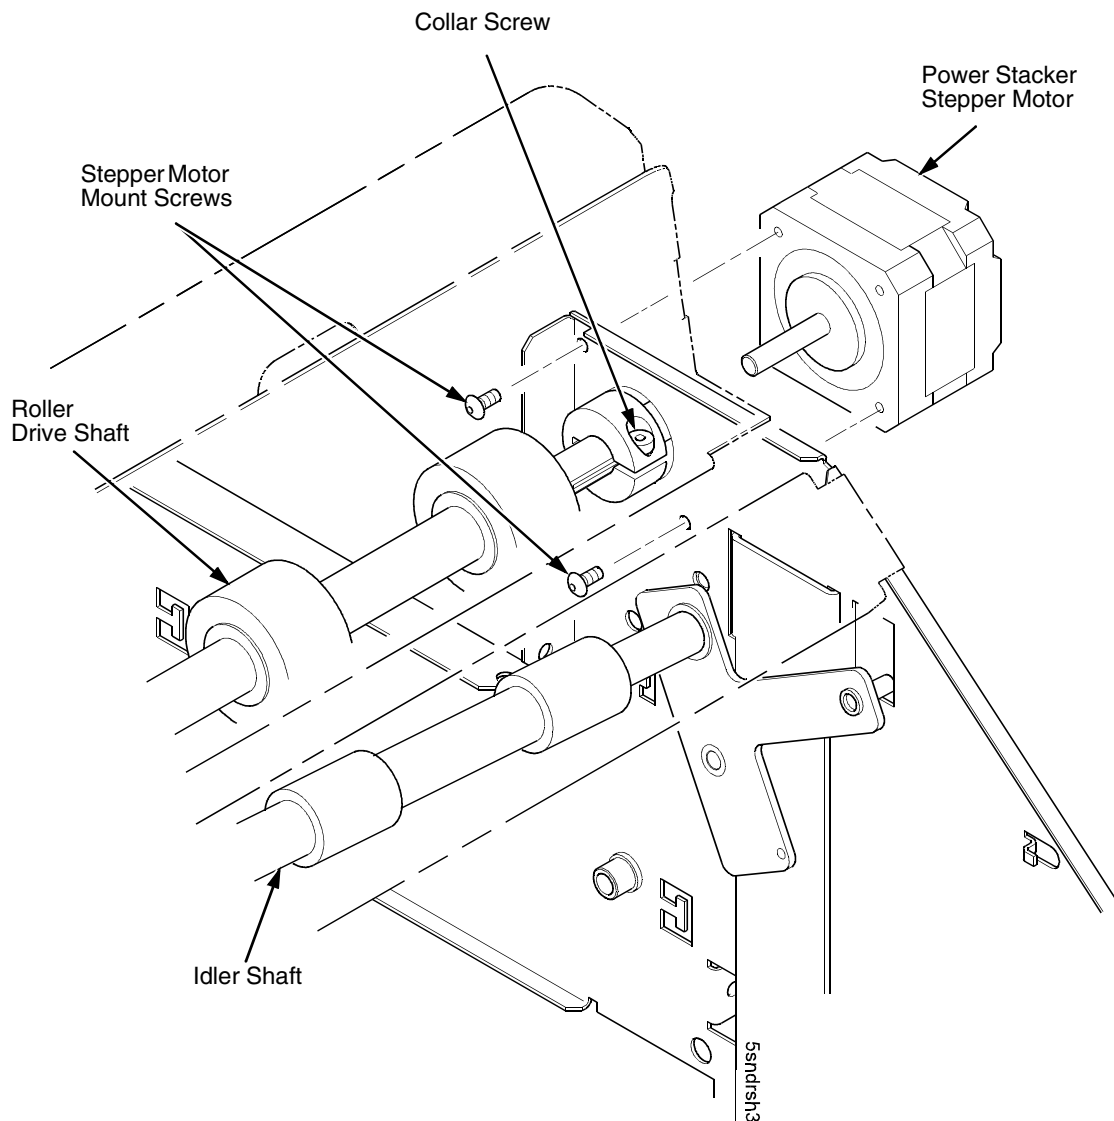

Figure 100. Power Stacker Stepper Motor
4. Move the idler shaft enough to expose the lower mount screw of the power stacker stepper motor. (Figure 100.)
6. Using an M-2 Allen wrench, remove the two screws securing the power stacker stepper motor to the elevator. (Figure 100.)
7. Using a 9/64 inch Allen wrench, loosen (do not remove) the collar screw securing the collar to the roller drive shaft. (Figure 100.)